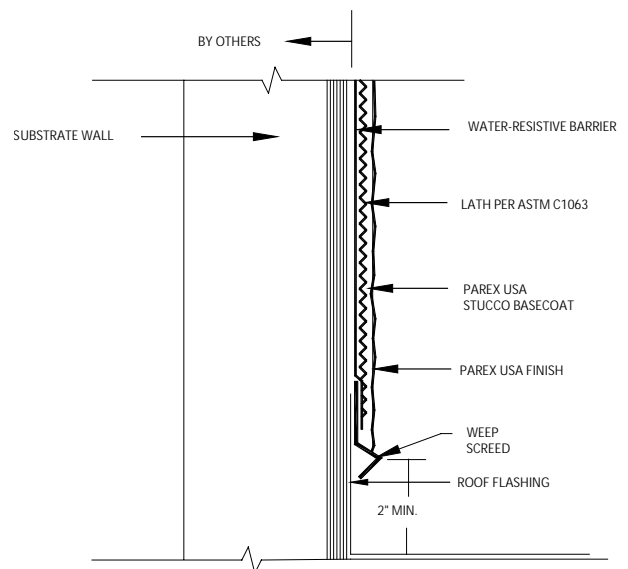

Fig 8.2
- Roof lines shall be not less than 2 in. (51mm) below the stucco termination. (Fig.8.2).